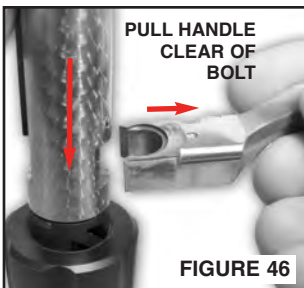

FIGURE 46
- After the bolt handle is pulled free of the bolt body (FIGURE 46) the firing pin assembly can be removed from the bolt body (FIGURE 47) - allowing it to be cleaned and lubricated.